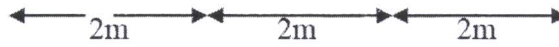

Fig.4
- b) A beam is loaded as shown in **fig.4** determine the deflection of the points 'P' and 'Q'. Take $EI = 70,000 \text{ kN-m}^2$. 90kN [10]